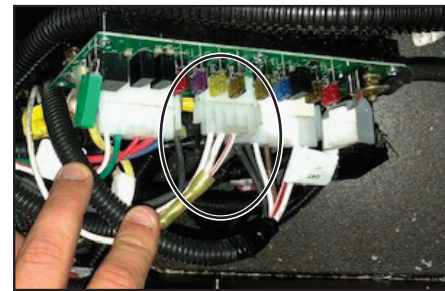

Figure 2
6. With the step cover removed, locate the 4-pin connector on the fuse panel, shown in Figure 2, and remove it from the panel.